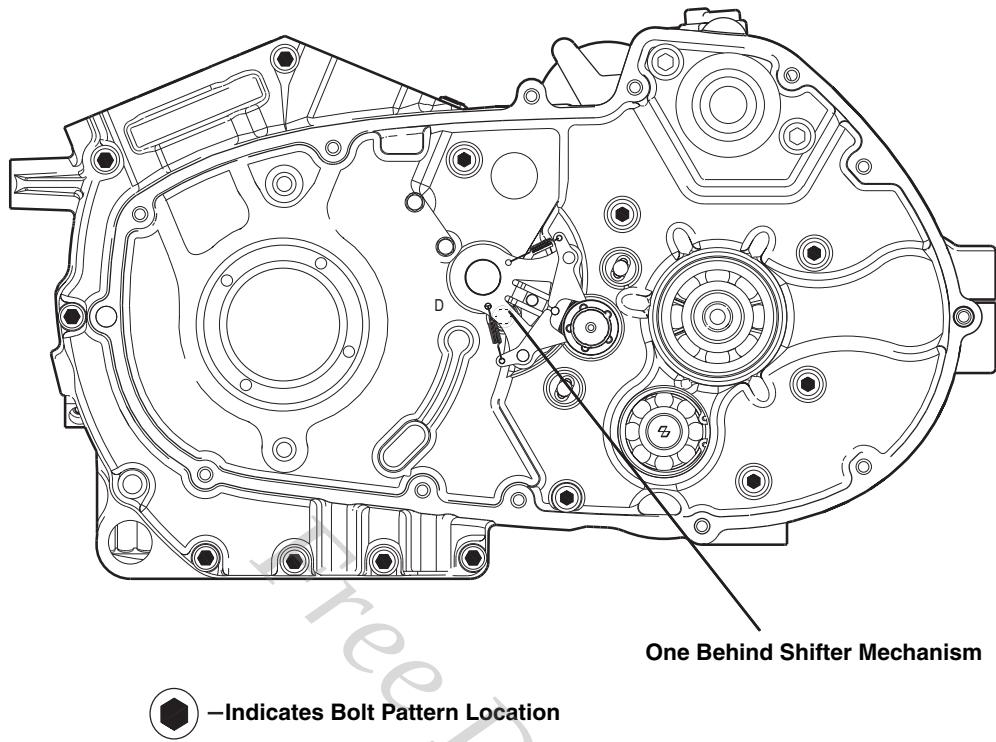

Figure 6-87. Crankcase Fasteners
- c. See Figure 6-87. Tighten 5/16-in. fasteners to 15-19 ft-lbs (20.3-25 Nm).